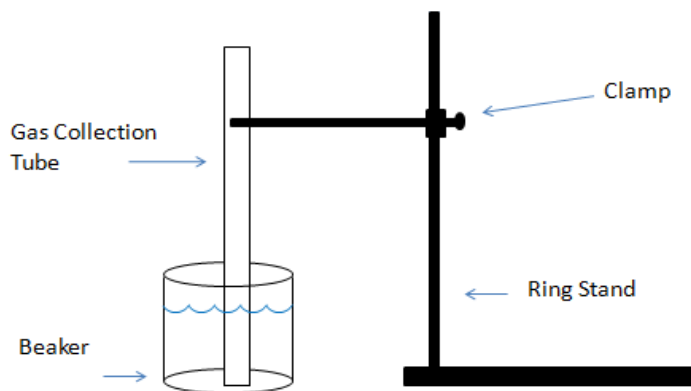

Figure 1: Gas Collection Set-up
4. ☐ Set up a bench post, medium clamp, and beaker as shown in Figure 1.
9. ☐ While holding a finger over the hole in the rubber stopper, invert the tube into your beaker. Remove your finger from the hole once it is under water. Use the clamp as shown in figure 1 to hold the tube upright.